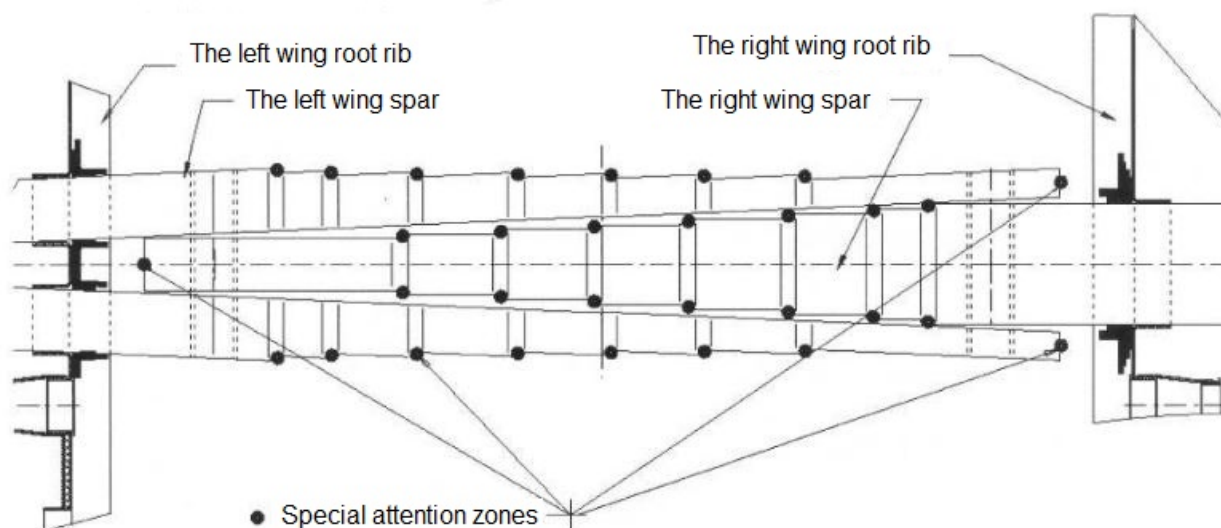

Fig. 1. The inspection of the wing spar external part
- Damage of composite structure, delamination. Special attention must be taken to the spar shells. The tests, done to evaluate the wing life time resource, shows a potential opportunity for the damages in spar shells transition areas (see the Fig. 1). Any structural damage or indication of delamination in these areas is **not permissible**. The repair must be done according the manufacturer's instruction.